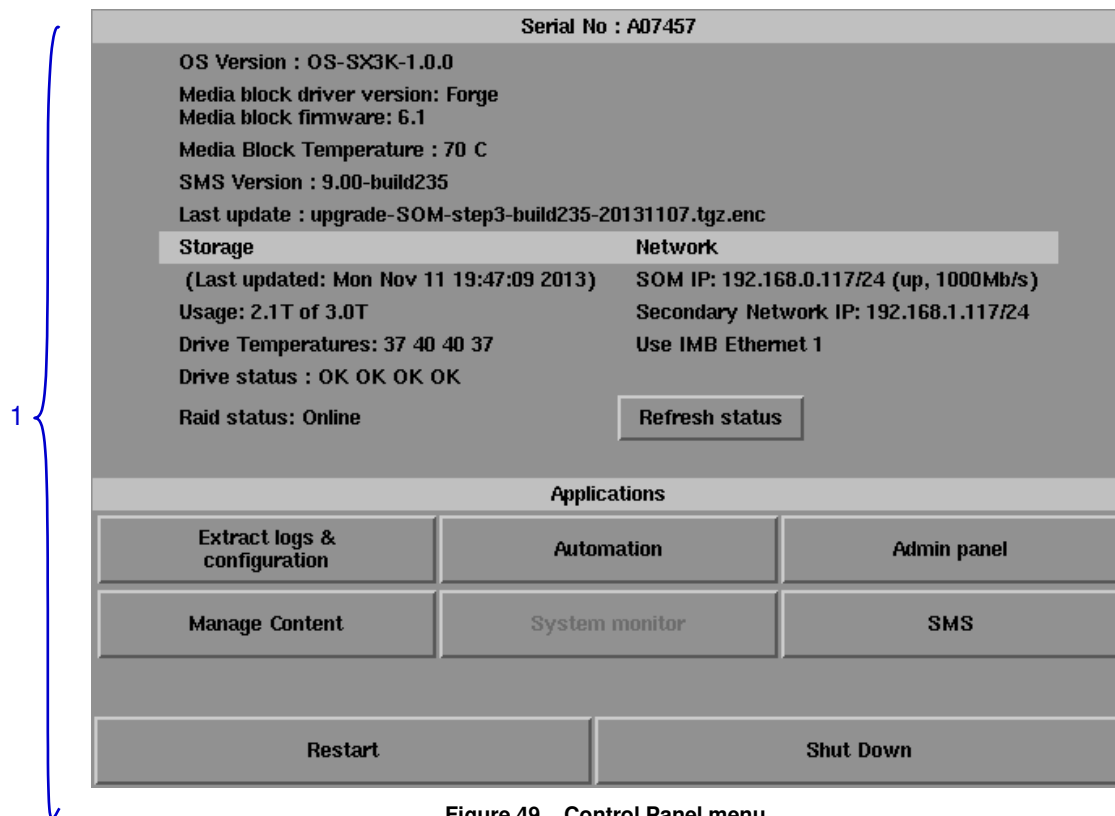

Figure 49 Control Panel menu.
- 1 Switch **ON** the IMB and allow it to boot up to prompt directly to the SMS interface. When the SMS interface is shown, press the **Control Panel** button and a new window for the **Control Panel** menu opens as shown in **Figure 49**. The **Control Panel** includes the **Automation** button, **Admin panel** button, **Manage Content** button, **SMS** button, **Restart** button, **Shutdown** button and a **Refresh status** button. System information including the serial number, OS version, SMS version, network and storage information can also be seen on the Control Panel UI.